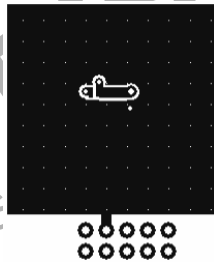
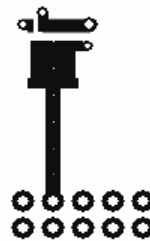

Figure 4. 1 Square Inch of 2-ounce Copper
Figure 5. Minimum Pads of 2-ounce Copper
$T_A = 25^\circ\text{C}$ (Note 2) (See Figure 4)	2.3
- The device power dissipation and thermal resistance ( $R_\theta$ ) are characterized with device mounted on the following FR4 printed circuit boards, as shown in Figure 4 and Figure 5.